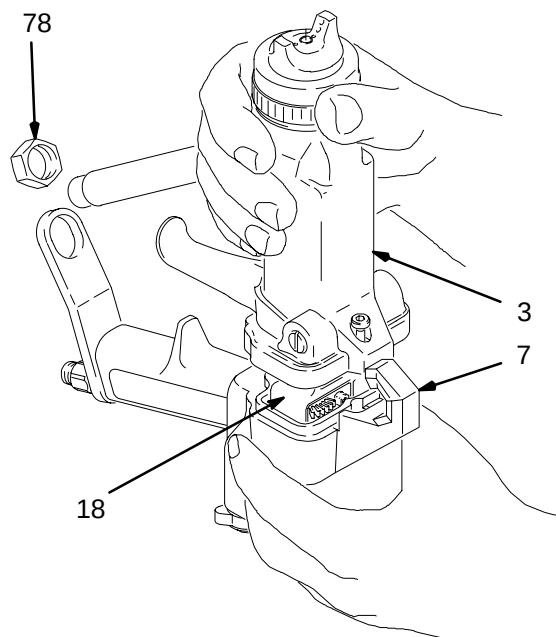

Fig. 26
3. Loosen the three barrel screws (5) with the ball-end wrench (63). See Fig. 26.
4. Hold the gun handle (7) with one hand and pull the barrel (3) straight away from the handle to remove it. Be prepared to catch the nut (78). See Fig. 26.